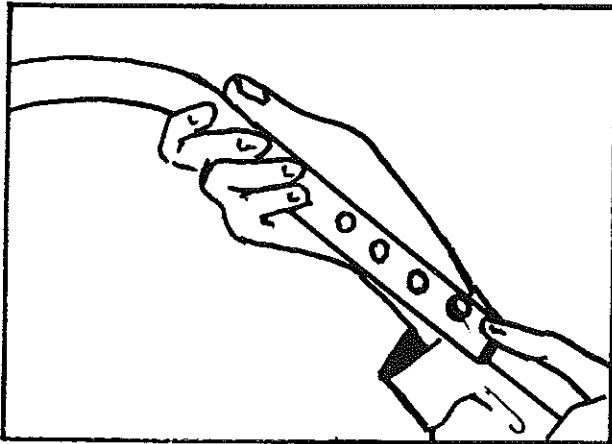

FIGURE 25
35. Adjust bed bow support as necessary to make the tent enclosure over the bed taut. This is done by pressing the release button on the pole and extending the rod to the next hole location. See Figure 25.
9. Detach both front and rear bed bow supports from the roof retainer and from the bed bow. Lay the bed bow supports under each mattress. See Figure 25.